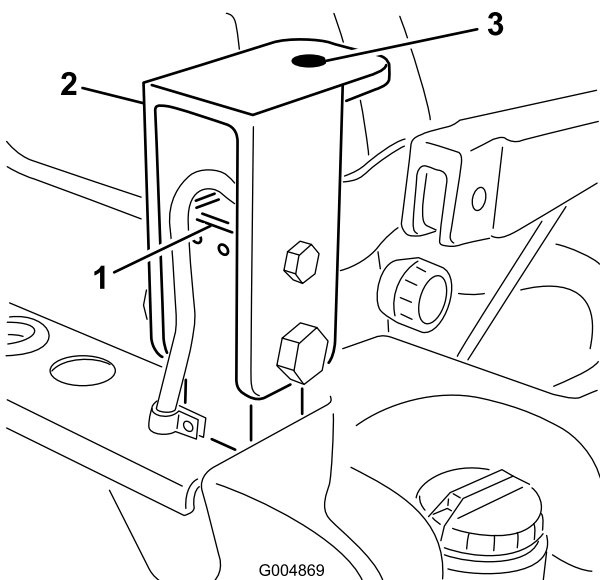

Figure 92
38. Remove the bolts and nuts securing the cab mount supports to the ROPS posts (Figure 92).